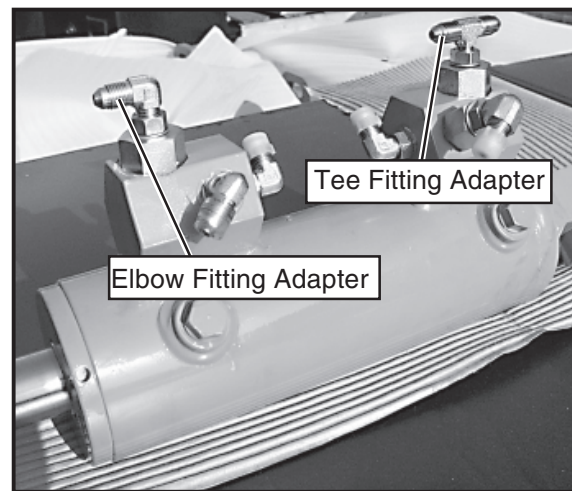

Figure 2
3. Locate Tee Fitting Adapter and Elbow Fitting Adapter. See Figure 2.